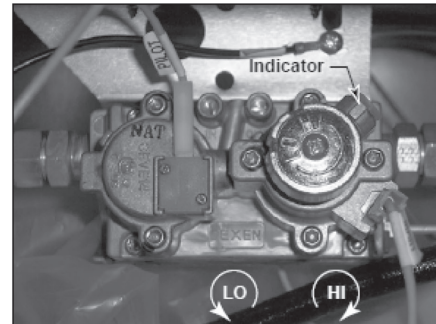

Figure 2.4 DEXEN Valve - IntelliFire Ignition System
- Compare your valve to Figures 2.4 & 2.5.